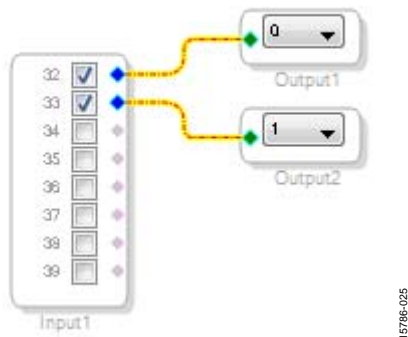

Figure 25. Connected Signal Flow with Stereo Input and Stereo Output
3. To connect each input channel to its corresponding output channel, click and drag a line, representing a wire, between the blue pin of the input channel and the green pin of the output channel (see Figure 25). Input Channel 0 connects to Output Channel 0, and Input Channel 1 connects to Output Channel 1.